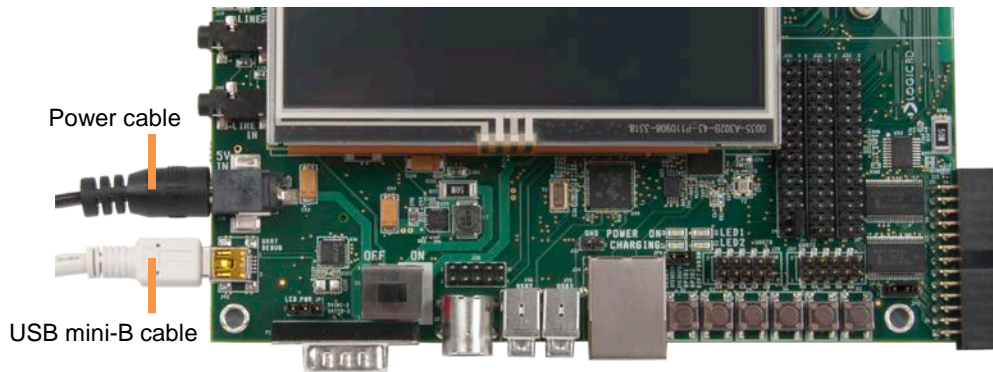

Figure 2.2: Connect USB Mini-B Cable
1. Connect the USB mini-B cable to the debug UART USB port on the baseboard and to an empty USB port on your host PC. See Figure 2.2.
3. Plug the power adapter into an electrical outlet and the 5V line output connector into the power-in connector on the baseboard. See Figure 2.2.